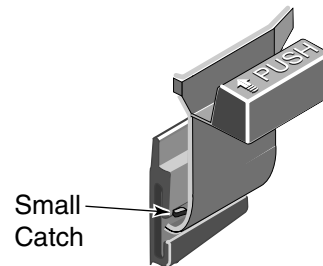

Figure 7 – Safety Latch
SAFETY LATCH (See Figure 7)
1. Press down on the small catch behind the safety latch and press or tap the latch out of the “Tee” slot in the tank (see Figure 7).